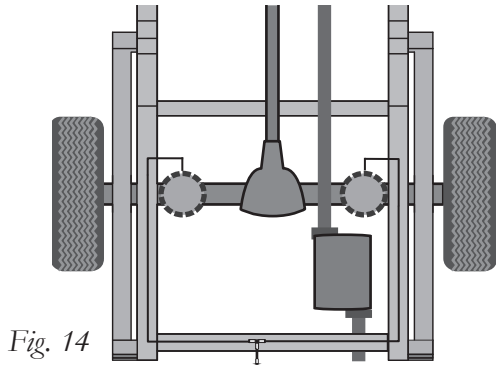
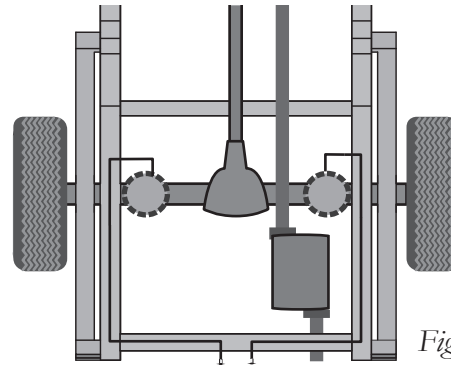

Fig. 14
Fig. 15
1. A single-path air line installation is recommended for vehicles that typically have even weight distribution (Fig. 14). If weight in the vehicle varies from side to side and unequal pressures are needed to level the load, use a dual-path installation. For dual-path air line installations, eliminate the tee fitting (I) and route separate air lines for both air springs (Fig. 15).